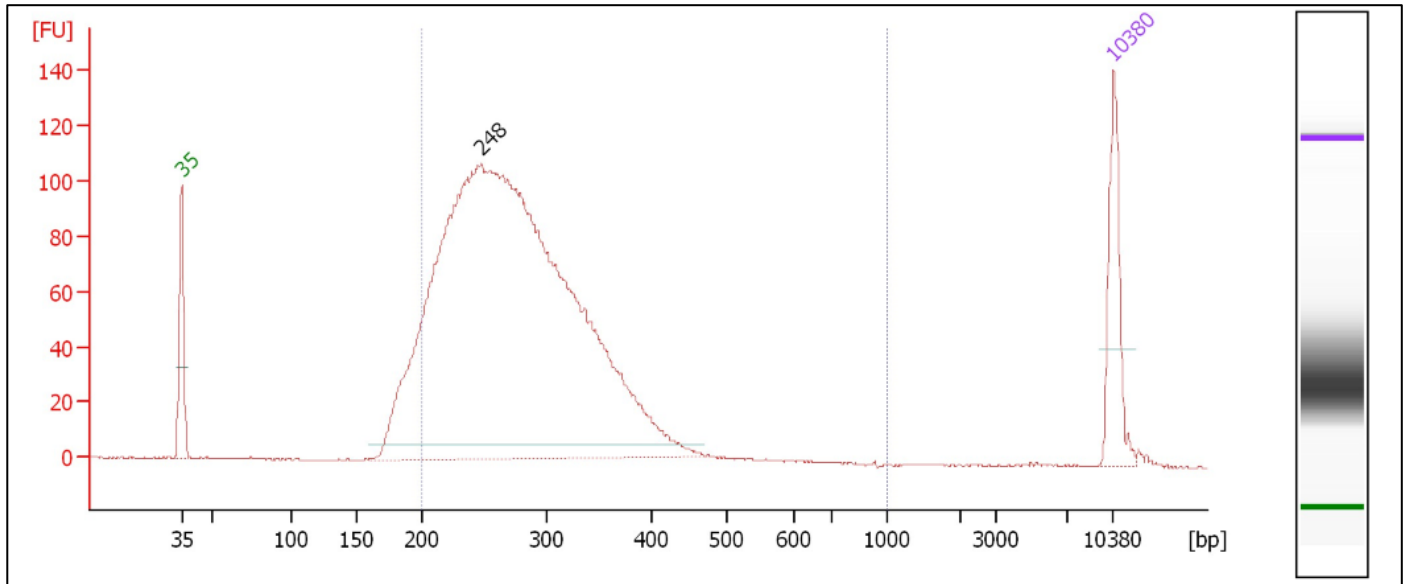

Figure 2. Bioanalyzer trace of a typical AHARIBO_TRANSLATOME_RNAseq library.
- **9.6** Calculate 50 % of this maximum fluorescence value and determine at which cycle this value is reached. As the endpoint PCR will contain 10x more cDNA compared to the qPCR, subtract three from this cycle number. This is then the final cycle number you should use for the endpoint PCR with the remaining 17 μL of the template (see Fig. 2 in Appendix 1).
Using 1.7 μ L of cDNA for a qPCR, the cycle number corresponding to 50 % of the maximum fluorescence (calculated as in Fig.2) was 15 cycles. The remaining 17 μ L of the template should therefore be amplified with 12 cycles (15 - 3 cycles = 12 cycles).